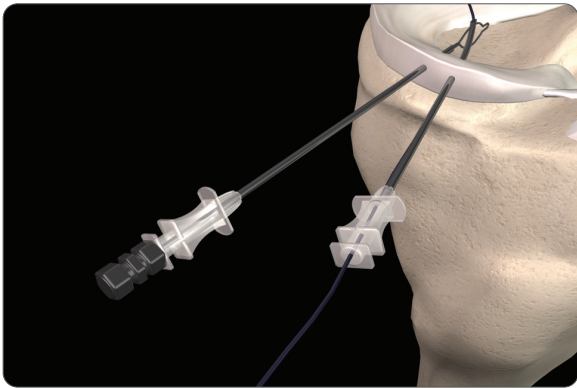

Figure 8
4. Introduce the suture into the joint by threading it through the second needle and, thus, the loop. Slowly pull back on the second needle, ensuring the suture remains in the loop (**Figure 8**).